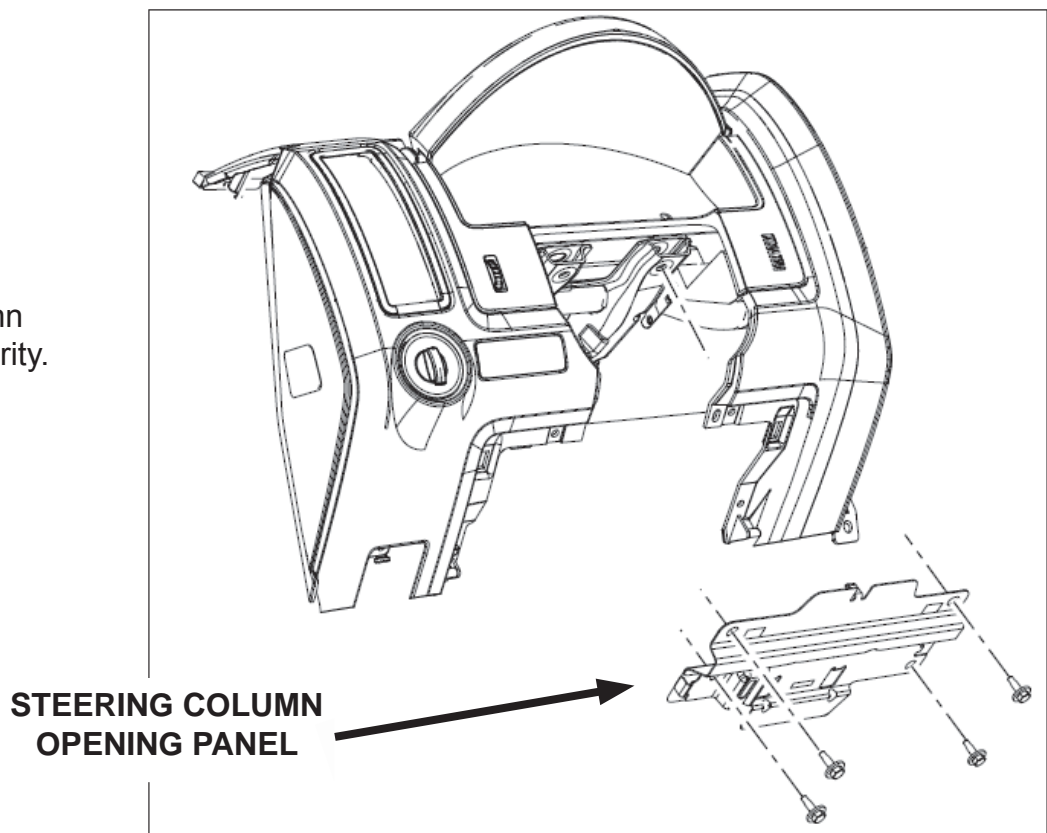

FIGURE 3
7. Remove the four bolts and the steering column opening panel. See Figure 3.